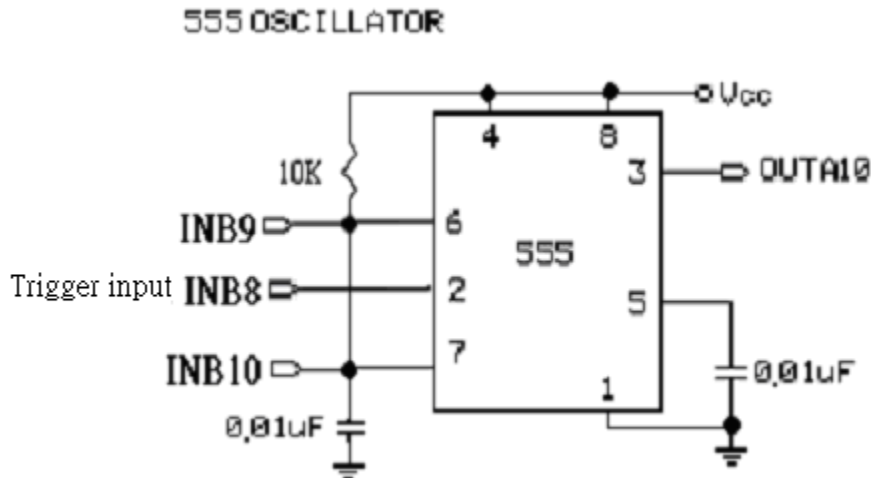

Figure 9-13
1. Monostable multi-vibrator circuit, as figure 9-13